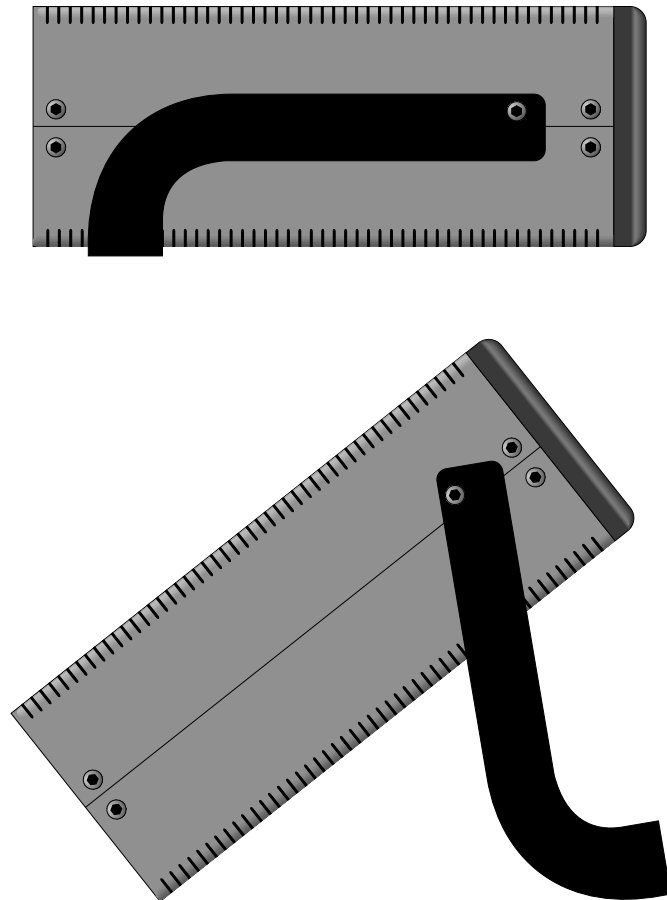

*Figure 1 Rear Panel*
The user should become familiar with the calibrator and its parts. (Refer to Figures 1, 2, and 3).
**Power Cord** - The power cord, (Figure 1) attaches to the back side of the 9131. It plugs into a standard 115 VAC (optional 230 VAC) grounded socket.